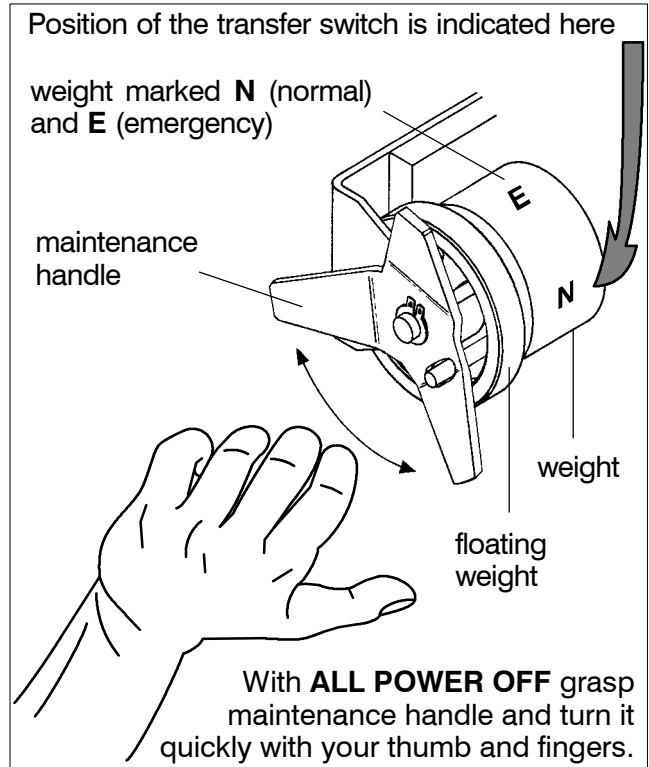

Figure 1-5. Permanently attached maintenance handle and positions on 30 – 230 amp. D-design transfer switches.
*30 through 230 amp. D-design* See Figure 1-5.